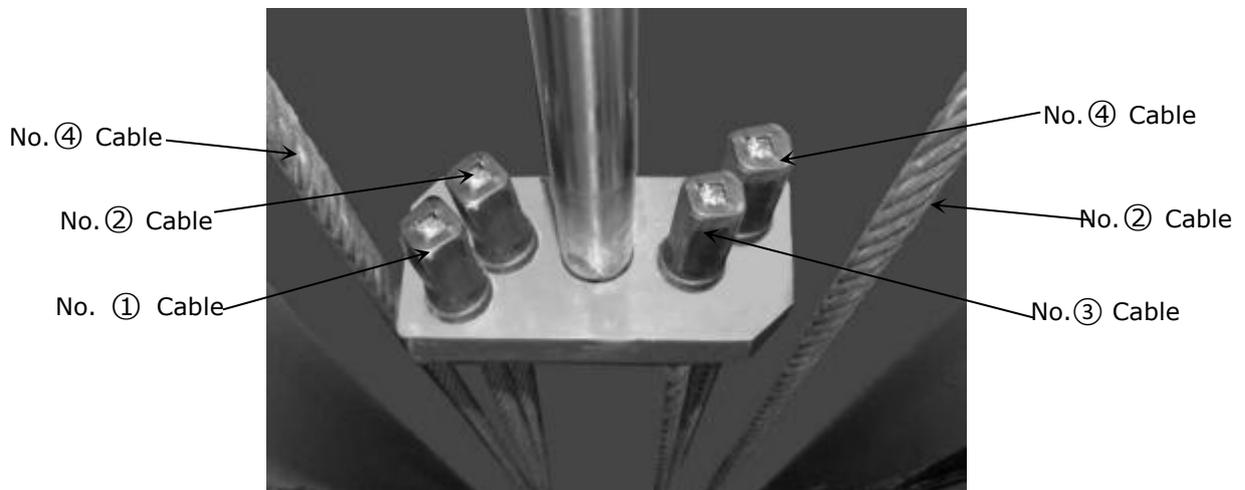

Fig. 35
3. The sketched overview of cables finally installed under platform (**See Fig. 35, 36, 37**).